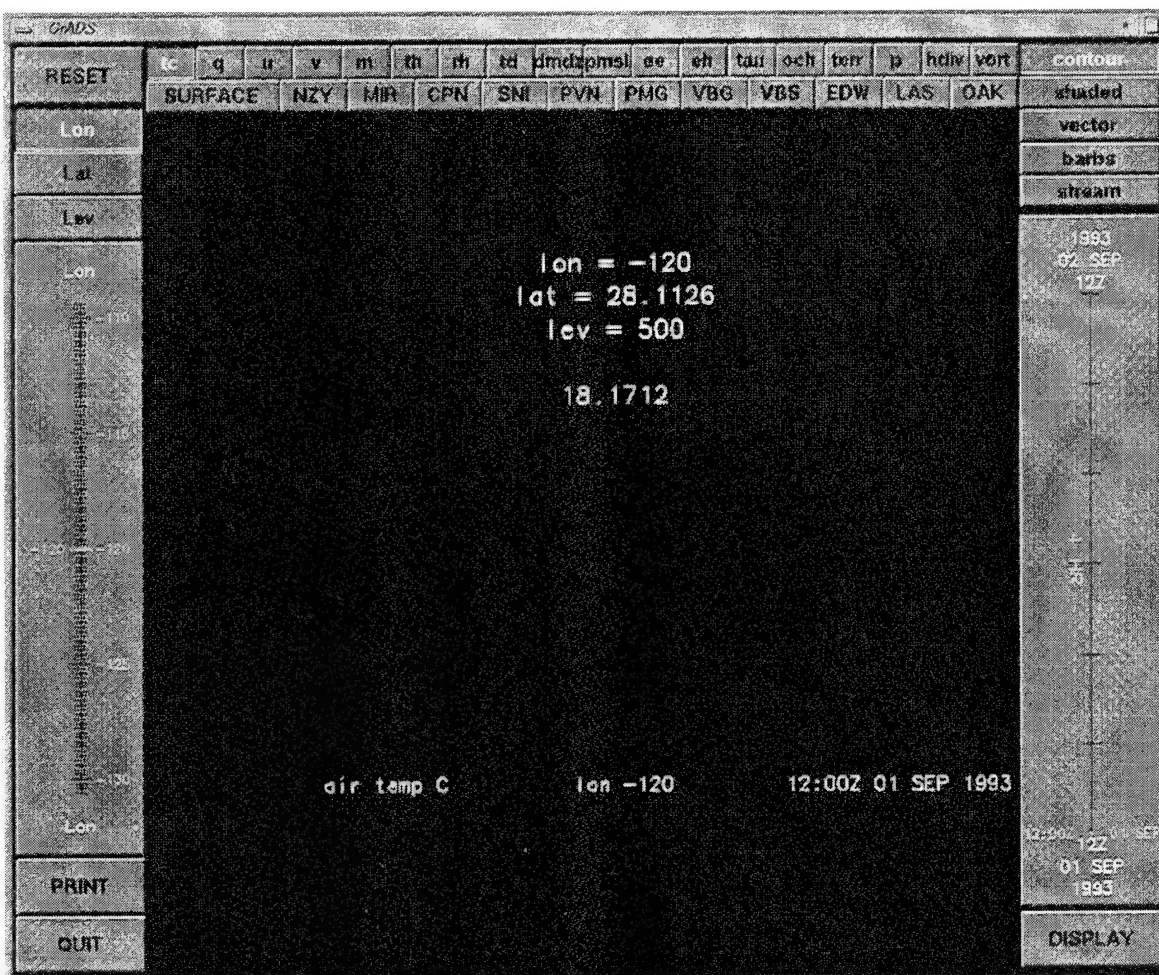

Figure 6. Printed data for fixed conditions.
- All dimensions and time are fixed. The values of the selected dimensions, time, and variables are printed (Fig. 6).